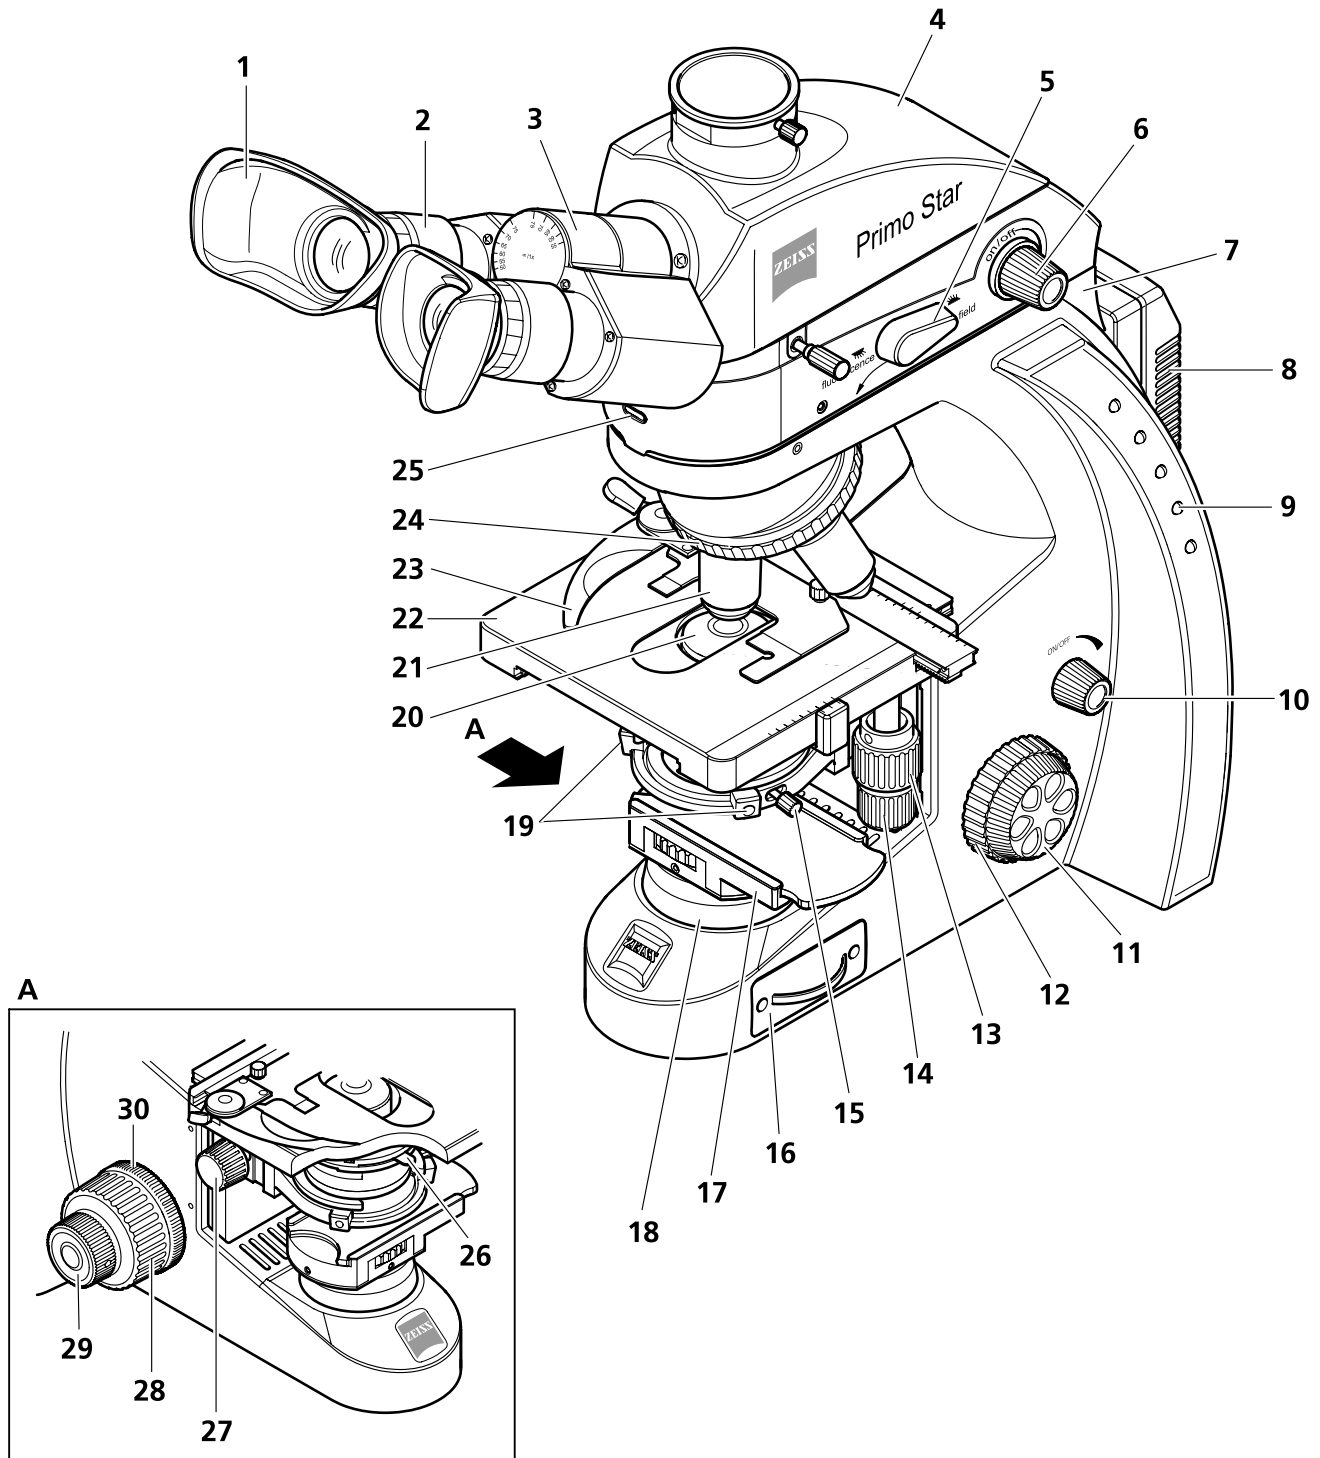

Fig. 17 Controls of Primo Star iLED
- The smoothness of the coarse focusing drive (Fig. 16/25 and Fig. 17/30) is factory-adjusted, but you can readjust it when required.
- Turn the transmitted light / reflected light changeover switch (Fig. 17/5) upward to the transmitted-light position (**Brightfield**).
- Switch on the transmitted-light illuminator using the rotary knob (Fig. 17/10) and adjust the desired illumination intensity.
The selected illumination intensity for transmitted light is indicated in five steps by the blue light-emitting diodes (Fig. 17/9) arranged on both sides of the stand.
- Turn the transmitted light / reflected light changeover switch (Fig. 17/5) upward to the reflected-light position (**Fluorescence**).
- Switch on the reflected-light illuminator using the rotary knob (Fig. 17/6) and adjust the desired illumination intensity.
The pilot lamp (Fig. 17/25) at the front of the reflected-light illuminator lights with the reflected-light illuminator switched on. The brightness of the pilot lamp corresponds to the illumination intensity adjusted.
**Legend to Fig. 17:**